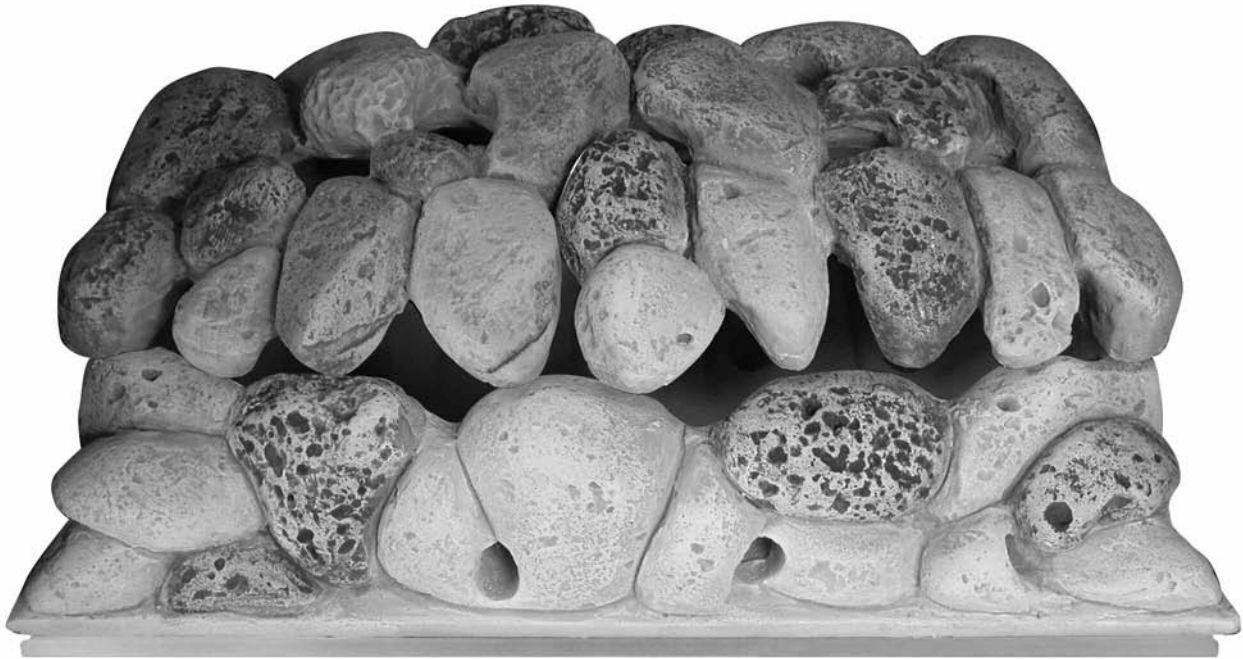

Fig. 24
5. Finally check that all the pebble pieces are 'nested' together correctly (Fig. 24) and a close fit is achieved on the middle joint (this will stop gas surge through the gap).